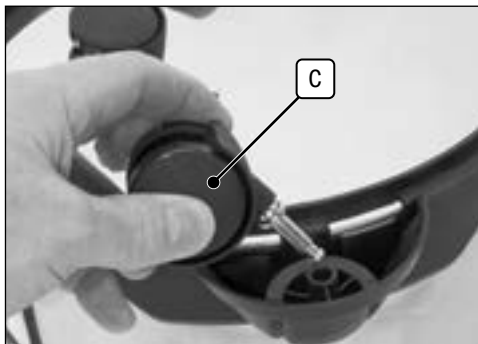

Fig. 1
### 6.1 Fitting the Castors (Fig.1)
- Firmly press the four castors **C** into the underside of the tank base. (Fig. 1).